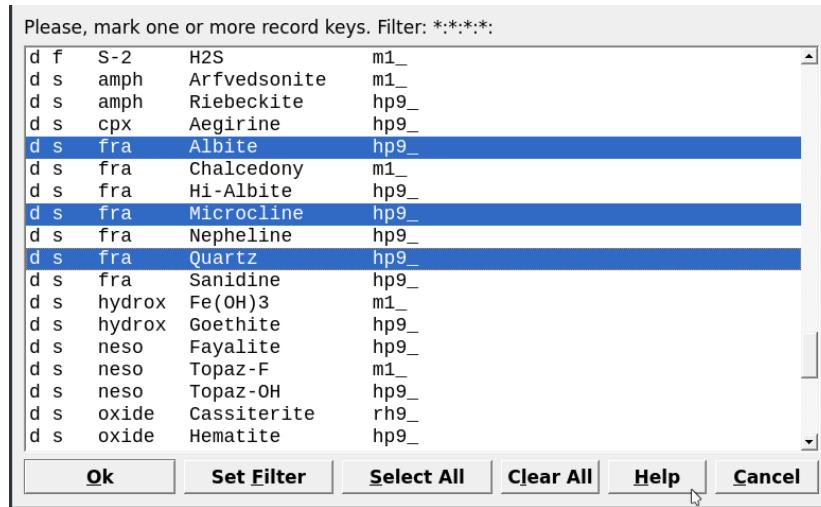

Figure 3.4: Dialog to select Dependent Components.
- On the next dialog select “Use formulae of Dependent Components” (Fig. 3.3). In the next dialog choose first independent components IComp (i.e., K, Al, Si, O, H, Na) then the dependent components DComp: Microcline, Muscovite, Albite and Quartz (Fig. 3.4).